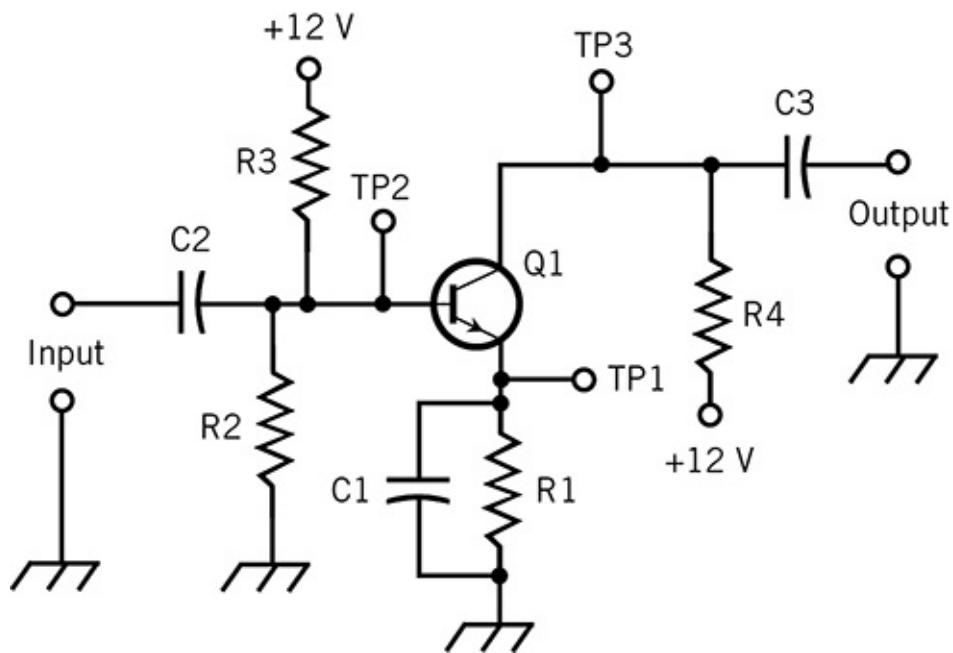

FIG. 4-17 Schematic of an amplifier circuit that includes component designators and three test point (TP) locations.
Figure 4-17 shows a schematic presented in a form that can assist a troubleshooting technician. The circuit has a single NPN bipolar transistor along with some resistors and capacitors. Note that *test points* (abbreviated TP) exist at three different locations: TP1 at the emitter of the transistor, TP2 at the base, and TP3 at the collector.
The circuit of Fig. 4-17 receives a weak AC input signal (such as might come from an ultrasonic pickup) and boosts it so that it can drive a device that consumes significant power (such as an electronic switch). The signal flows generally from left to right. The original AC signal enters at the input terminals, passes through capacitor C2, and reaches the base (left-hand electrode) of transistor Q1. The base acts as a variable “current valve” that causes large current fluctuations through Q1 as the electrons flow from ground through R1 to the emitter (the bottom electrode), then onward to the collector (top electrode), and out through R4 to the positive power supply terminal. Capacitors C1 and C3 allow AC signals to pass while blocking DC
According to standard schematic drawing practice, every component should bear a unique alphabetic/numeric label to designate it, as you see in Fig. 4-17. However, a few alternative labeling forms are also acceptable. Figure 4-18 shows the same circuit as the one in Fig. 4-17, but the diagram contains no alphabetic/numeric designations or test points. The components are identified only by their schematic symbols along with their electrical values or industry standard part designations. In the example shown, you know that the transistor is a 2N2222 type, and that the resistors have values of 470, 33k (33,000), 330k (330,000), and 680 ohms. The input capacitor has a value of 0.01 microfarad (μF), and the output capacitor has a value of 0.1 μF . The emitter capacitor, which goes across the 470-ohm resistor, has a value of 4.7 μF .
FIG. 4-18 Schematic of the amplifier circuit of Fig. 4-17, but with component values rather than sequential designators. All capacitances are in microfarads (μF). All resistances are in ohms (V); $k = 1000$.